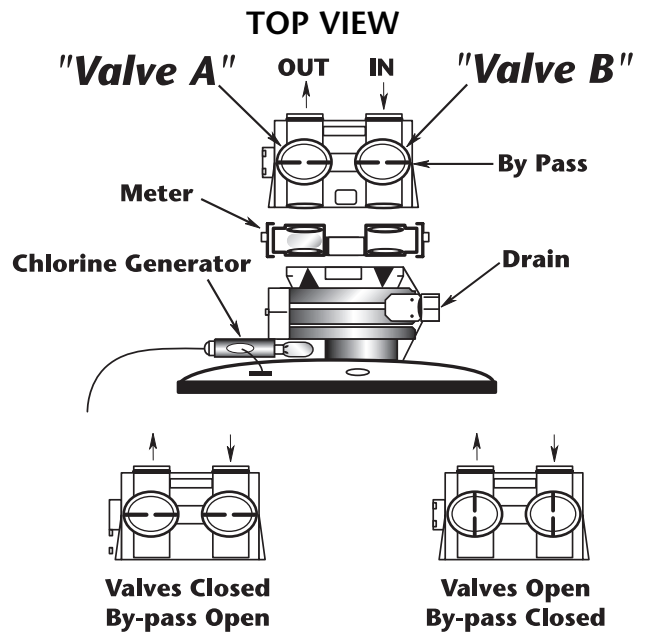
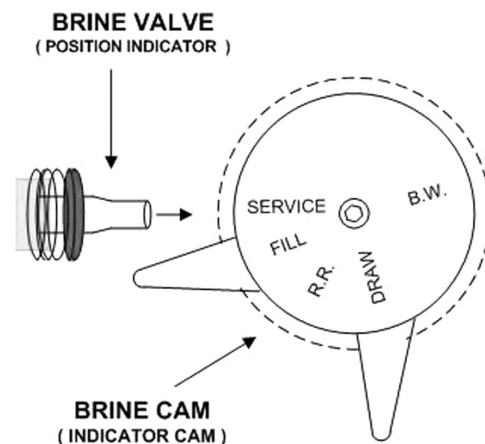

Figure 3
Figure 5
2. Install the chlorine generator on the brine valve (*Fig. 3*) by pulling the brine clip, inserting the generator and resealing the clip. Plug generator's electrical end into receiving adaptor in the back plate. Do not install brine line at this time.
3. Install meter and bypass, if ordered, (*Fig. 3*) using silicone grease provided on "O" Rings. Extra "O" Rings have also been provided in case a tear occurs during installation.
NOTE: Meter should be installed between the control valve and the bypass with the meter "turbine" being installed on the outlet side of the control valve (*Fig.3*).
- Notice on the casting, the inlet and outlet markings, make sure the incoming water is plumbed to the inlet and outlet is plumbed to service (*Fig. 3*). Your water softener must be installed with a bypass valve. If your conditioner is not equipped with one, make a provision in the plumbing system for a bypass to be installed.
- To “bypass” your water conditioner, turn valves A & B to the bypass open position (*Fig. 3.*). This will supply unconditioned water to the house.
- After installation is complete, rotate bypass handles to bypass mode (*see "Valves Closed" in Fig.3*).
1. With the softener in the bypass mode ("*Bypass valve*," *Fig. 3*) and the control valve in normal operation where the display shows either the time of day or the gallons remaining:
2. Press and hold the *REGEN* button until the motor starts (3 seconds). Release button. It takes approximately 90 sec. to reach the backwash position. **See "Start an immediate extra cycle" section 4, page 10.** Once unit has reached the backwash position, unplug the transformer so that the valve does not cycle to the next position. Open the inlet handle ("*Valve B*," *Fig. 3*) of the bypass valve **very slightly** allowing water to fill the tank **slowly** in order to expel air. Once air is expelled and water is running at drain, open inlet to control.
8. Once the cycle operation has been verified. Place bypass valve in the normal operating mode ("*Valves Open*," *Fig. 3*) by opening the outlet bypass handle.
2. With the softener in the bypass mode ("*Bypass valve,*" Fig. 3) and the control valve in normal service position (Fig. 5),
NOTE: Fig. 5 depicts the valve in the service position. It will take approximately 90 seconds to reach the backwash position.
4. Once unit has reached the backwash position, unplug the transformer so that the valve does not cycle to the next position. Open the inlet handle ("*Valve B,*" Fig. 3) of the bypass valve **very slightly** allowing water to fill the tank **slowly** in order to expel air. Once air is expelled and water is running at drain, open inlet to control. Let water run for 5 minutes or until clear.
7. Manually index control to the Rapid Rinse position (RR). Check drain line to be secure and that drain can receive the flow of water. There should be a rapid flow to the drain. Unplug transformer to keep the valve in the RINSE position. Allow to run until clear and without air. While the unit is rinsing, load the brine tank with water softener salt.
10. Once the cycle operation has been verified, place bypass valve in the normal operating mode ("*Valves Open,*" Fig. 3) by opening the outlet bypass handle.